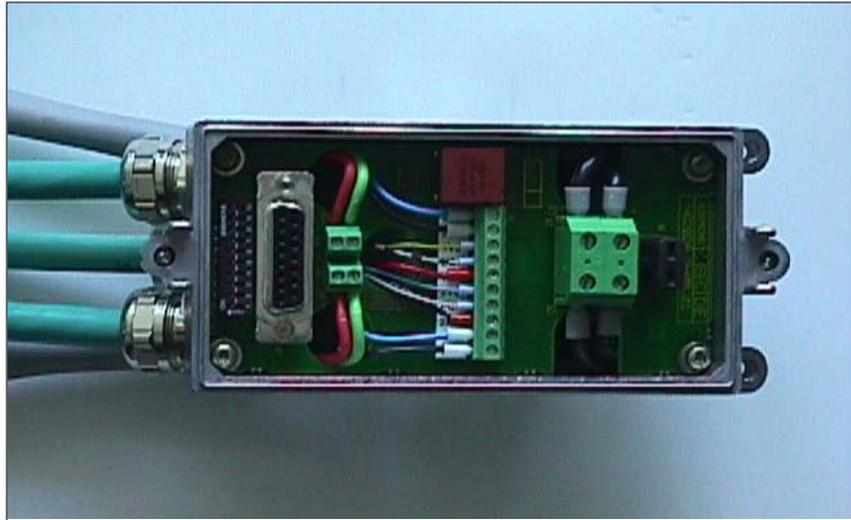

Fig. 2-27 Connection cover with the cables inserted: View from below
- Connection cover from the bottom —> refer to Fig. 2-27